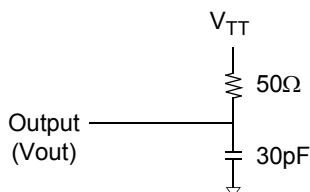

Figure 1. Timing Reference Load
3. Figure 1 represents the timing reference load used in defining the relevant timing parameters of the part. It is not intended to be either a precise representation of the typical system environment nor a depiction of the actual load presented by a production tester. System designers will use IBIS or other simulation tools to correlate the timing reference load to a system environment. Manufacturers will correlate to their production test conditions (generally a coaxial transmission line terminated at the tester electronics).